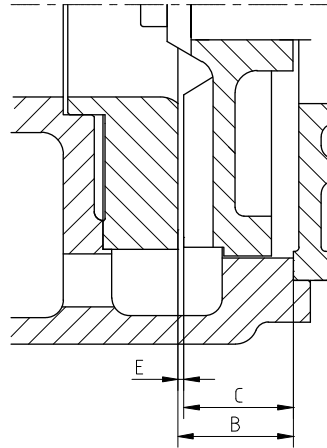

Figure 12: Clearance between impeller and wear plate, FRE bearing group 1.
- 2 Measure the distance B between wear plate and pump casing, see figure 12.
- 3 Measure the distance C between impeller and intermediate cover, see figure 12.